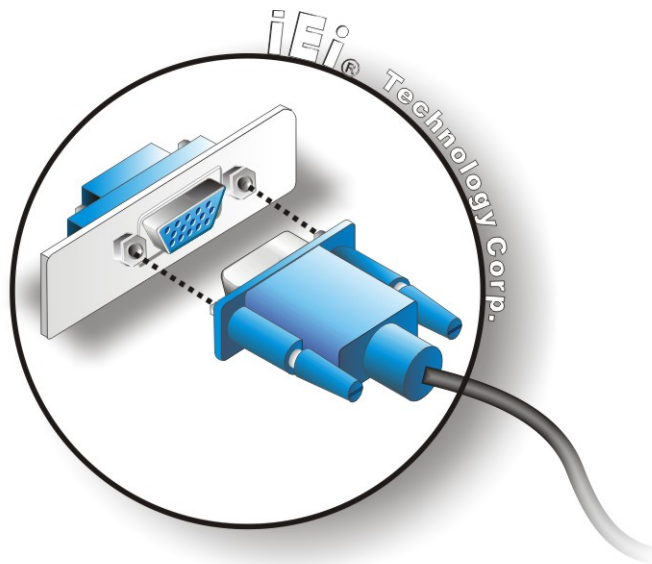

Figure 4-20: VGA Connector
- Step 3:** **Insert the VGA connector** Once the connectors are properly aligned with the insert the male connector from the VGA screen into the female connector on the WAFER-CV-D25502/N26002. See **Figure 4-20**.